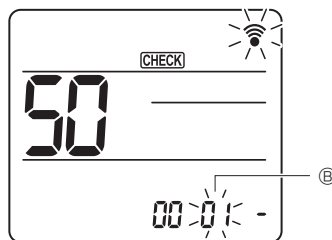

Fig. 15-3
Press the **[DOWN]** button to set Mode number ②. (Fig. 15-3)